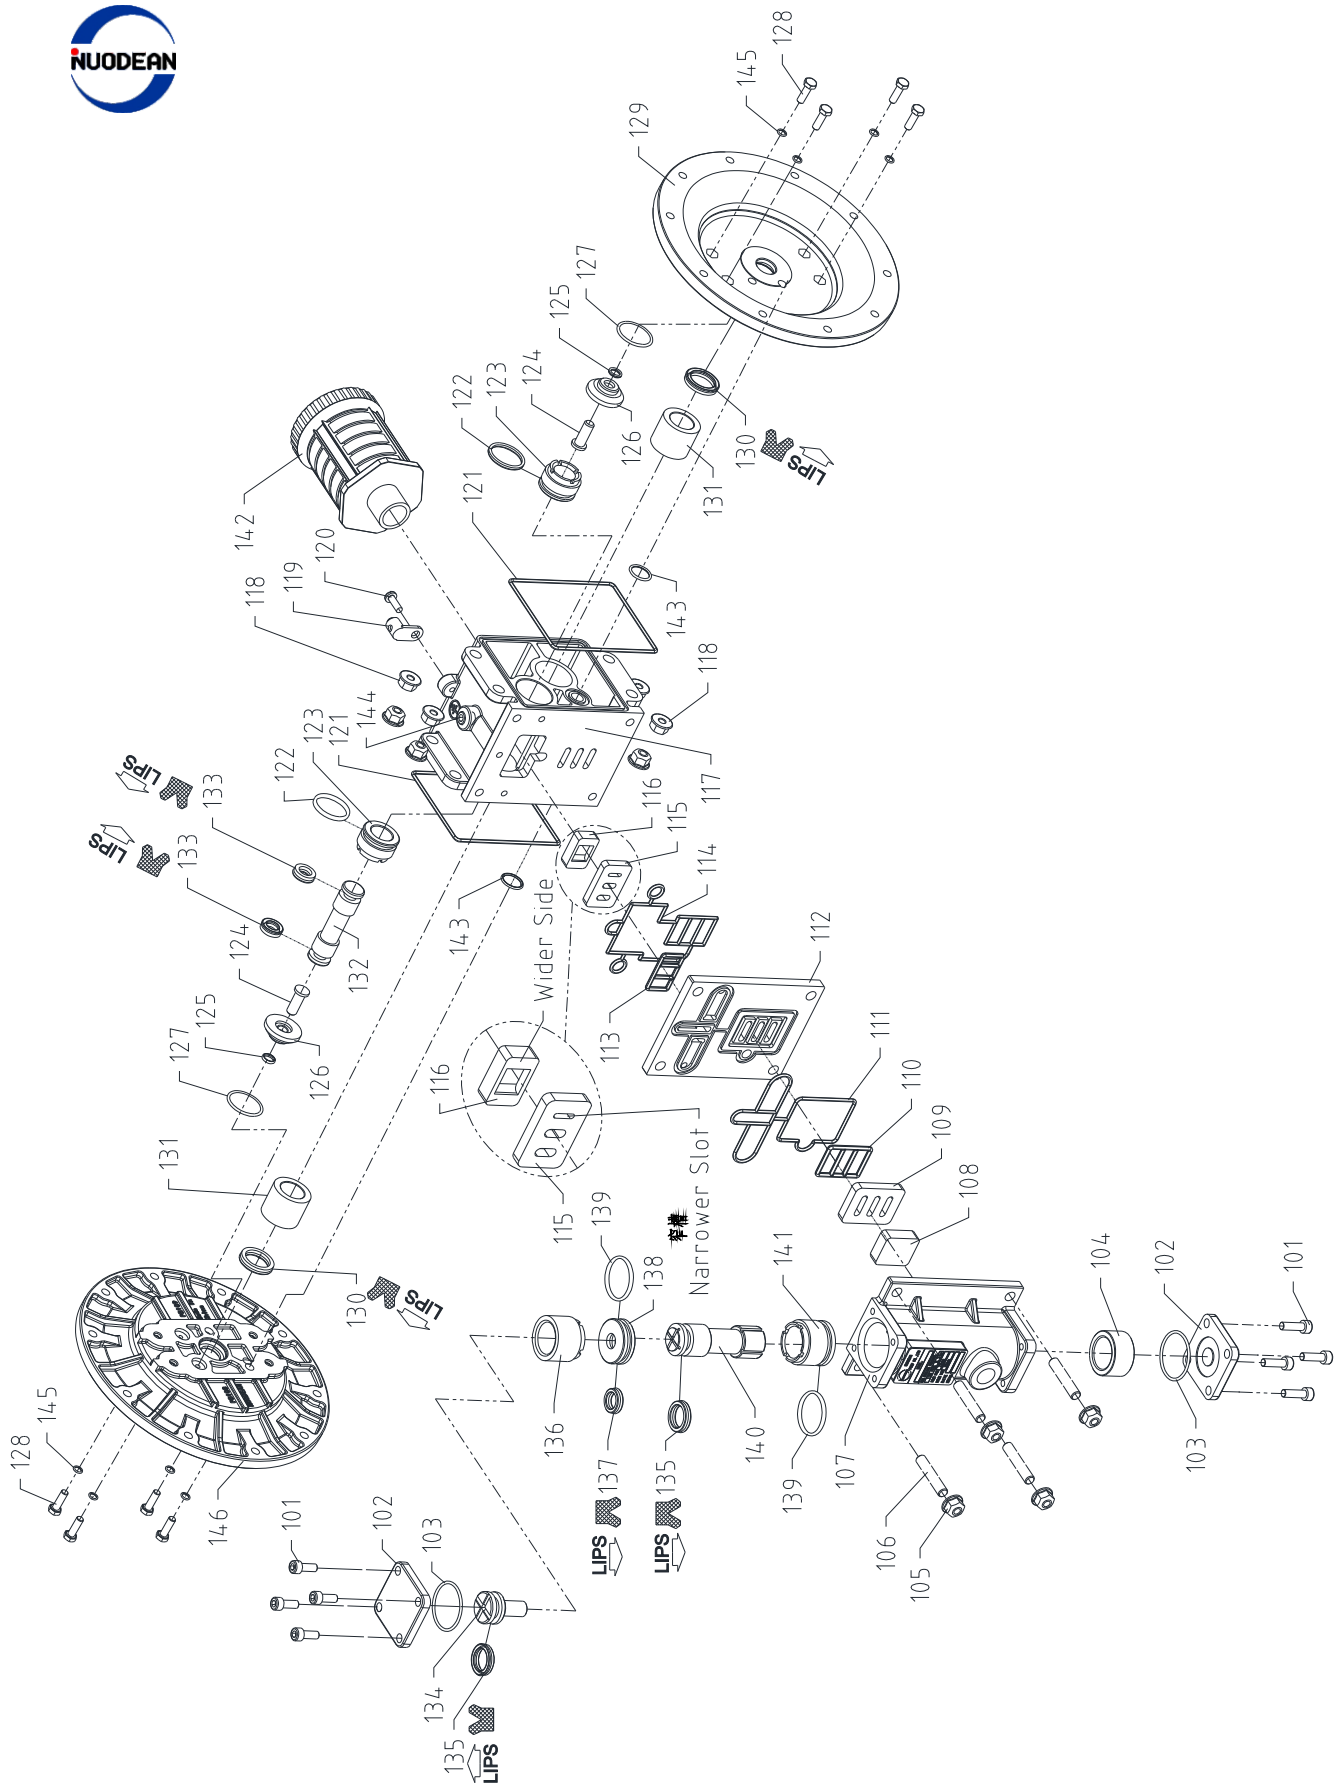

Figure 7
2. Remove (108), (109), (110), (111), (112), (113), (114), (115),
3. Remove (128), (146), (129), (145), (121), and (143). See figure 4 & figure 7.